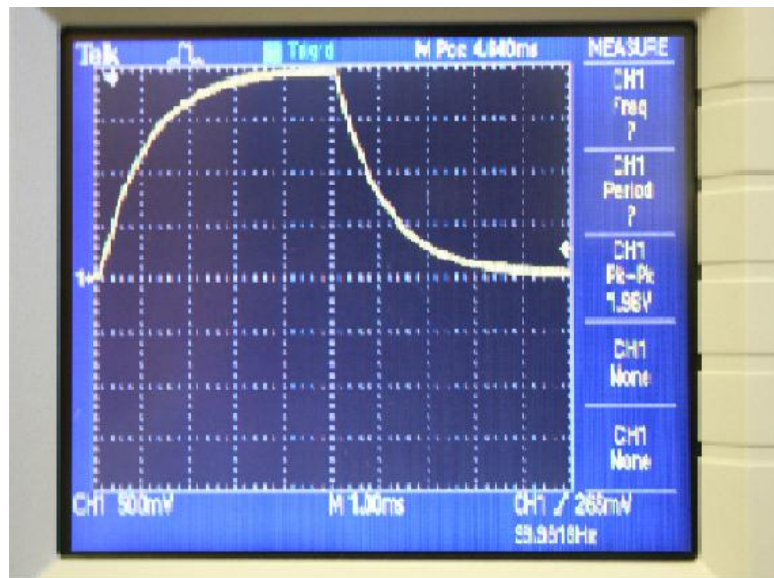

Figure 5: Trace Position and Time Constant Measurement from Oscilloscope
7. Adjust the “HORIZONTAL POSITION” control on the oscilloscope so that the cycle begins at an initial time of zero. See Figure 5.(note, time is measured along the horizontal).